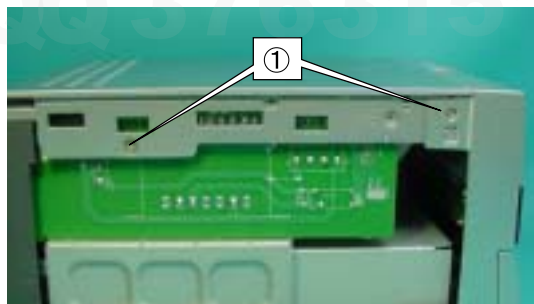

Fig.1-1
2. Remove the screws "1" and remove the Top Cabinet. (See Fig. 1-1.)